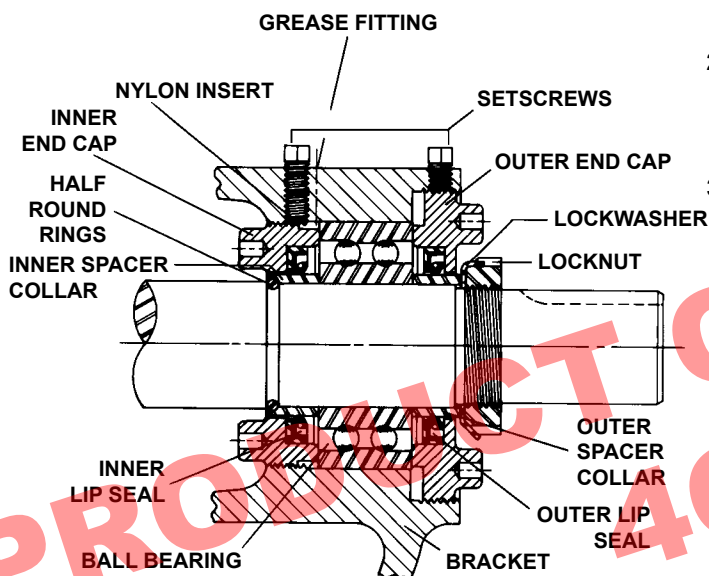

FIGURE 7
5. Tap shaft forward approximately 0.5 inch and remove pair of half round rings under inner spacer collar. There is no pair of half round rings on Q, QS and M size pumps. Refer to Figure 7.
9. Loosen the four setscrews over the outer and inner end caps. Remove both end caps, spacer collars and ball bearing. **Refer to Figure 7.** The inner end cap can be removed through the side openings in the bracket.
Place pair of half round rings on shaft and slide inner bearing spacer collar over half round rings to lock them in place. There is no pair of half round rings on Q, QS and M size pumps. **Refer to Figure 7, page 8.**
9. Press lip seal, lip facing end of shaft, in inner end cap and insert end cap through shaft end of bracket. Turn end cap clockwise, looking at shaft end, until it engages threads. End cap spanner wrench holes must be facing rotor. Turn end cap with spanner wrench until it projects slightly from opening on side of bracket. End cap must not be turned so far that lip seal drops off end of spacer collar on shaft or end cap becomes disengaged from threads. **Refer to Figure 7, page 8.**
11. Press lip seal, lip facing end of shaft, in outer end cap and insert end cap in bracket. Turn end cap in bracket until it is tight against bearing. **Refer to Figure 7, page 8.**
12. Put lockwasher and locknut on shaft. Insert length of hardwood or brass through port opening between rotor teeth to keep shaft from turning. Tighten locknut to 120-150 ft.- lbs. Torque (LS) or 170-190 ft.- lbs. Torque (Q, QS, M). Bend one tang of lockwasher into slot of locknut. If tang does not line up with slot, tighten locknut until it does. Failure to tighten locknut or engage lockwasher tang could result in early bearing failure and cause damage to rest of pump.